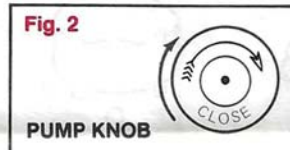

Fig. 2
3. Close PUMP KNOB firmly. Turn in direction of arrow on pump knob. (Fig. 2)